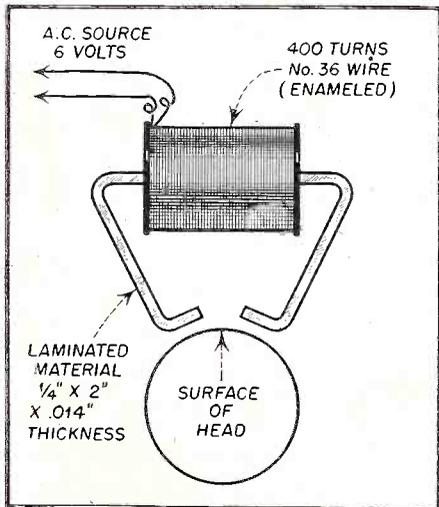

Fig. 3. Construction of demagnetizer for tape heads.
magnetizer is shown in Fig. 3. To construct and use it proceed as follows:
3. Bend the lamination into an open-ended quadrilateral as shown in Fig. 3. Place the open ends in contact with the pole faces of the head.